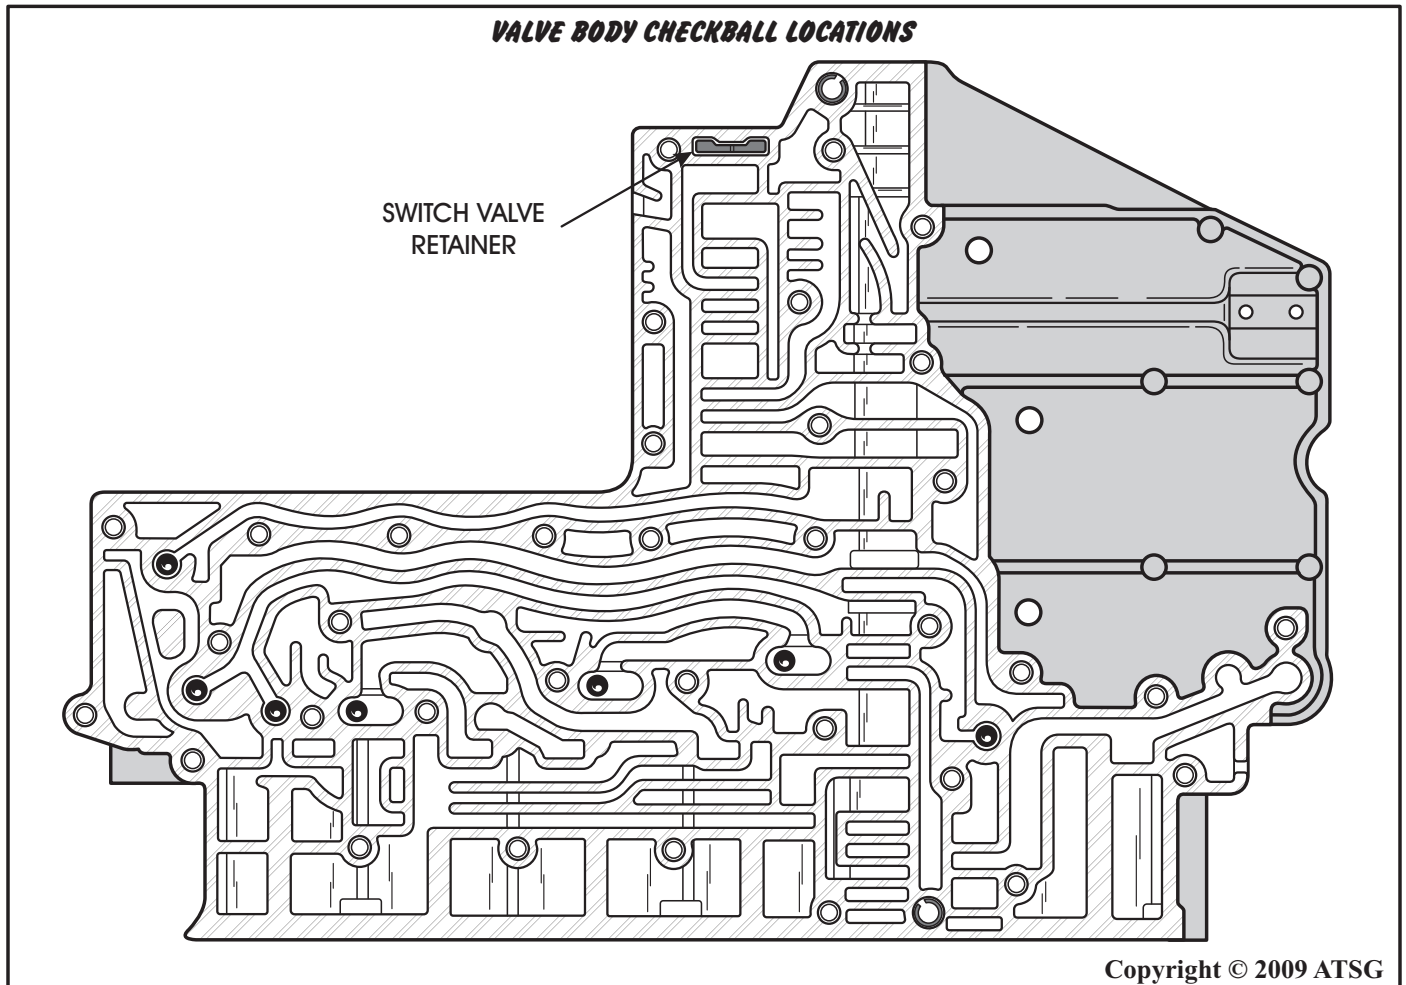

Figure 99
9. Lay the valve body down on a flat surface and install the 7 checkballs into the proper pockets as shown in Figure 99.